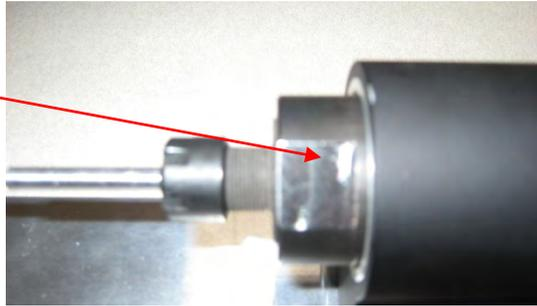

Figure C3 – Tube holder flat
6. Pull tube holder on right out so that it engages the heater tube. The tube holder flat (figure C3) should be completely visible. This will make sure that the tube holder has enough area to grab and hold the heater tube.